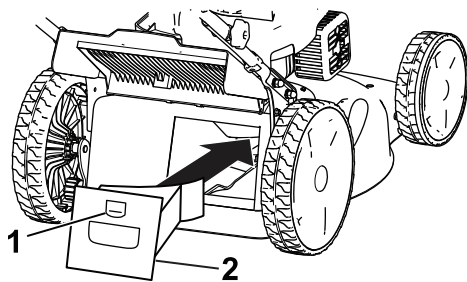

Figure 17
1. Raise and hold up the rear deflector (Figure 17).
2. Install the mulching plug into the housing and lock the plug into the opening in the housing (Figure 17).